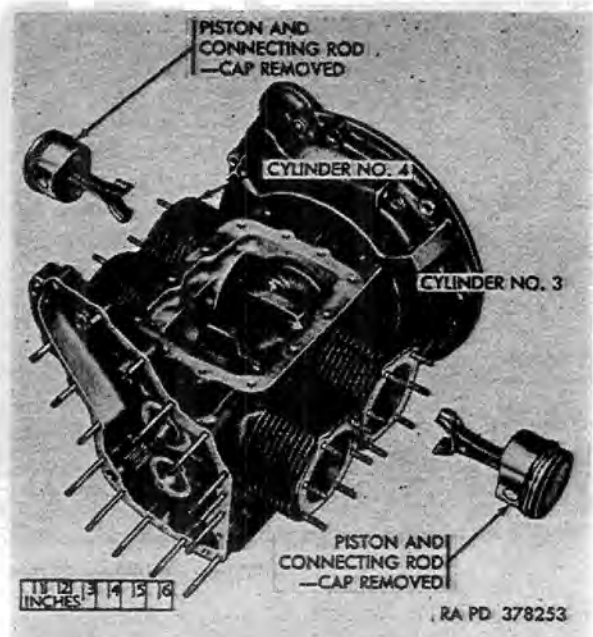

Figure 26. Removal of pistons and connecting rods from cylinders No. 3 and 4.
b. Repeat procedure in *a* above, and remove connecting rods and pistons from cylinders numbered 3 and 4 (fig. 26).